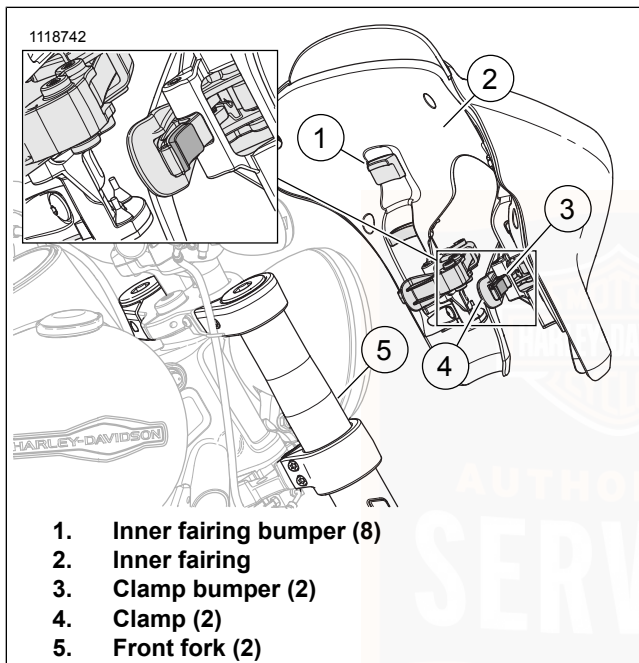

Figure 44. Fairing Clamps
1. See Figure 44. Inspect fairing.
- a. Verify inner fairing bumpers (1) and clamp bumpers (3) are in place, clean, and in good condition.
- b. Open and close clamps (4) to verify they are in working order.